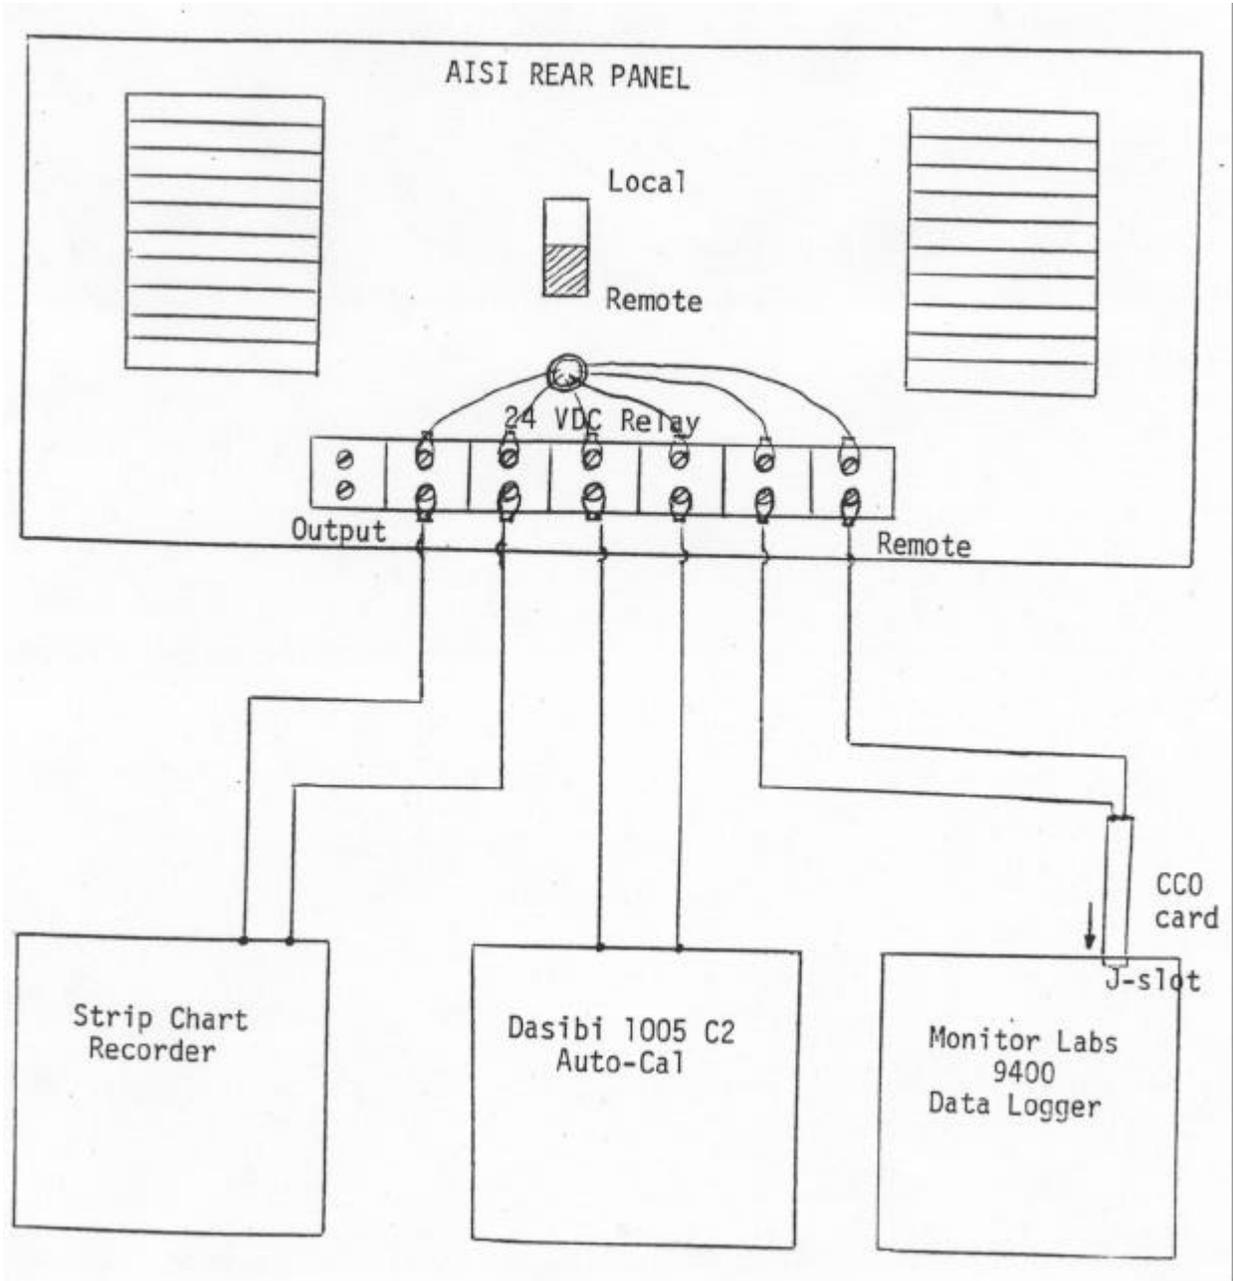

Figure K.1.1.1
2. Connect a signal lead from a strip chart recorder (analog voltage input range -0.05 to 1.05 volts) to the two lugs marked "OUTPUT" on the rear of the AISI sampler. See Figure K.1.1.1 - Electrical Hookup Schematic.
from the Dasibi "Auto-Cal" to the terminals marked "24 VDC RELAY" or the 12 VDC solenoid actuation voltage from the CSI calibrator to the terminals marked "12 VDC RELAY" on the rear of the AISI. See Figure K.1.1.1.